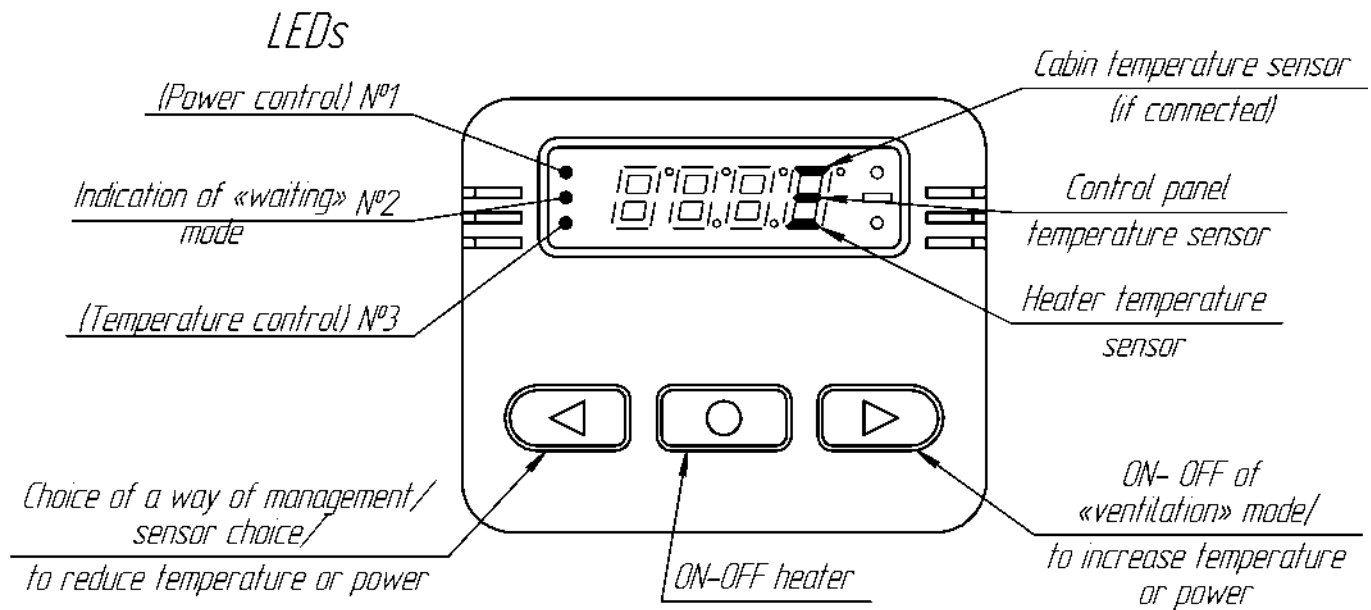

Fig. 6.2- Control panel «ИУ-16М»
6.2.1 The front board of the panel contains: four-digit light emitting diode (LED) indicator, three LEDs and three knobs. Functionality of the knobs and LEDs. (fig.6.2)
While first time the heater is connected to electric circuit of the car or after breaks of power supply, according to environmental temperature there will be following information on the panel (for example)- the temperature in the area of the sensor installed in the heater is -12°C, if the temperature in the area of the sensor is above zero, there will be no "mines" before the figure. Movement according to the main menus is carried out by the button «↔» (fig.6.2)